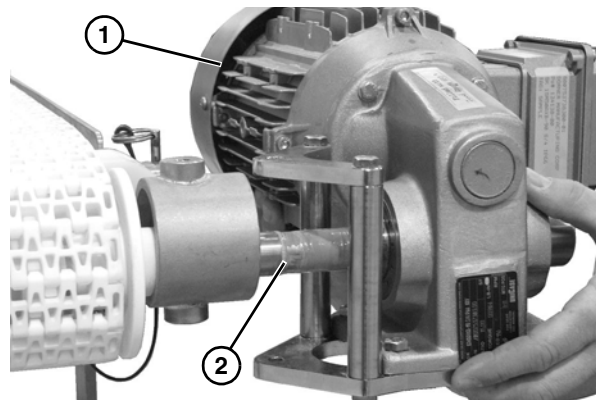

Figure 62
4. Slide the gearmotor (**Figure 62, item 1**) off of the drive spindle (**Figure 62, item 2**).